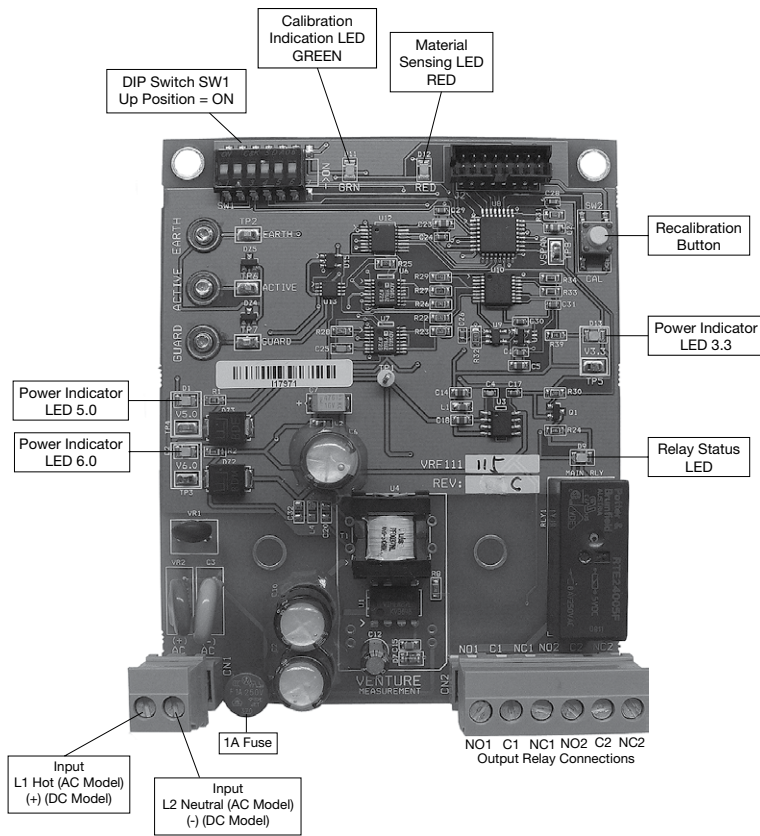
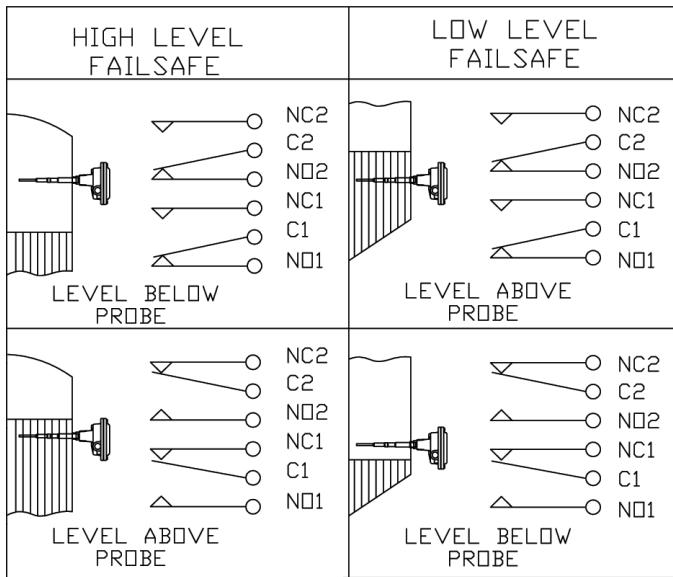

Figure 4.1 - VRF-1000 Electronics.
Figure 4.2 - High/Low Level Fail-Safe.
See Figures 4.1 and 4.2 for location of input and output wiring.
See Figure 4.1 for location of input and output terminal blocks. Agency approved insulated barrel type terminals are supplied in the input terminal block to provide additional safety. These terminals must be used in order to maintain approval requirements. See Figure 4.2 for output contact positions during stages of operation.
An electrical earth ground connection must be made to the housing input ground screw located inside the enclosure. See Figure 4.1 for location. This connection is needed for both electrical safety and proper operation of the unit. This is required for both AC and DC units.
The VRF™ is shipped from the manufacturing facility in the high level fail-safe condition. This setting is made on DIP switch SW1, position 5. See Figure 4.1 in Chapter 4.
The VRF™ is shipped from the manufacturing facility in the 2pF setting. This setting is made on DIP switch SW1 positions 1 and 2. See Figure 4.1.
The VRF™ is shipped from the manufacturing facility in the minimum time delay setting. This setting is made on DIP switch SW1 positions 3 and 4. This setting will delay the time between when the VRF™ unit senses material and the output relay changes state. The delay is only in this direction, regardless of fail-safe setting. There will be no delay when the material leaves the probe. See Figure 4.1.
This unit can also be manually calibrated by pressing the recalibration push button. See Figure 4.1. The probe must not have material level present when calibration is performed.
If the unit is powered on a bench prior to installation, or moved from one installation to another, recalibration is required. Momentarily press the calibration push button. See Figure 4.1 for location. The green calibration indication LED will turn OFF, then after 1 second will illuminate, to indicate that calibration is complete. If the green LED is flashing, the unit is not properly calibrated. Check all ground connections and retry.
- Proper input voltage. If correct, the “Power Indication LED” should be illuminated. See Figure 4.1 for location.